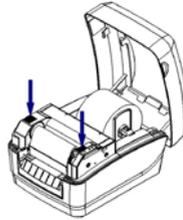

Figure 2.3.3
- 5) Press down the ribbon holder to locking status, then close the top cover of printer (see figure 2.3.3).